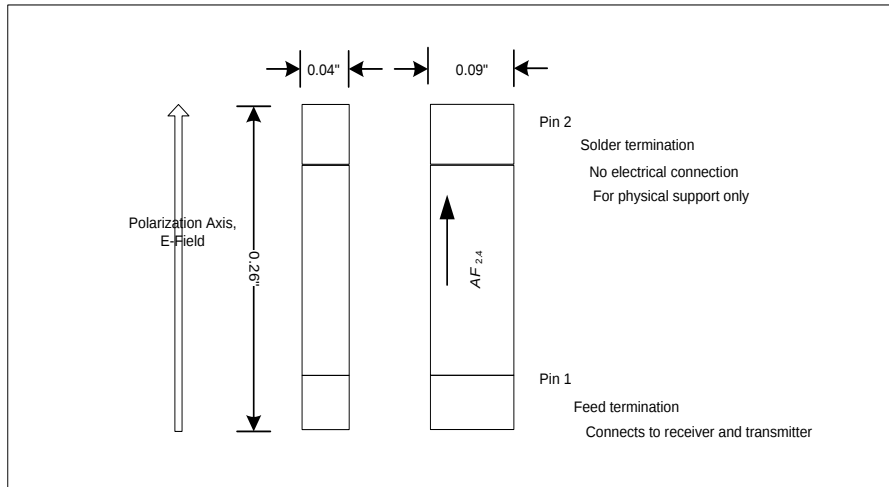
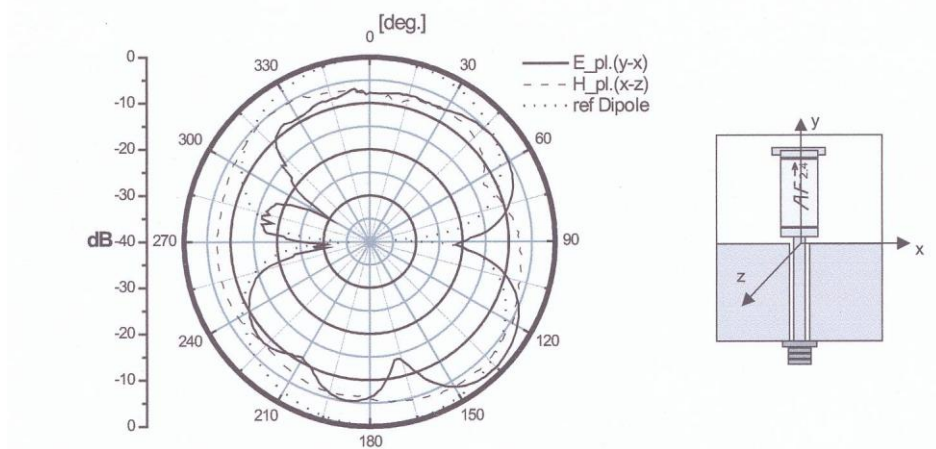

Figure 3. SLN Antenna Dimensions
Figure 4. Antenna Radiation Pattern
The SLN has an embedded dipole antenna for the transmission and reception of Bluetooth Radio-Frequency (RF) Signals. The antenna is an Antenna Factor chip antenna, ANT-2.45-CHP-x. The antenna physical dimensions are shown in Figure 3. The radiation pattern is shown in Figure 4.